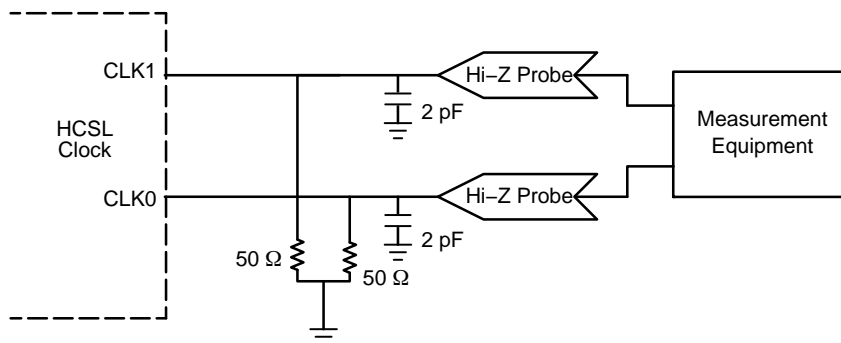

Figure 8. HCSL Parameter Measurement
8. Measurement taken with outputs terminated with RS = 0 Ω, RL = 50 Ω, with test load capacitance of 2 pF. See Figure 8. Guaranteed by characterization.